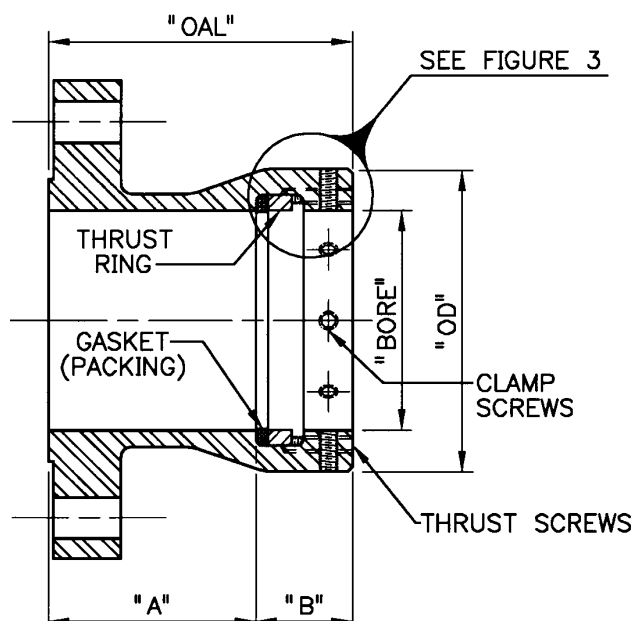

Figure 1: Typical PLIDCO®+FLANGE Cross Section
- 2) **Figure 1** is a typical cross section of a PLIDCO®+FLANGE and its' components. Values for dimensions shown in Figure 1 are provided in **Table 1**.
- 1) All dimensions are in inches and fractions of an inch (except bore is in decimal form). See Figure 1.